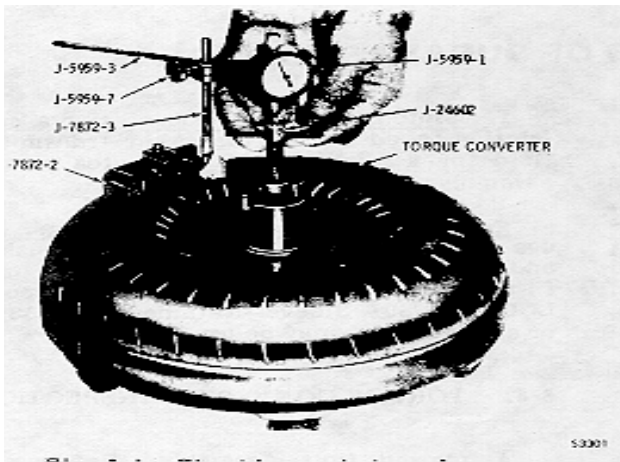

Fig. 6-1. Checking end play of torque converter elements
(1) Clear the torque converter of oil. Examine the oil for evidence of foreign matter or metal particles, indicating transmission or converter internal damage.
(2) Support the converter assembly on the converter cover (pump hub upward). Place the converter end play gage, J-24602, into the converter pump hub (fig. 6-1).
(3) Retain the body of the gage in the pump hub with one hand while rotating the center screw with the other hand, locking the gage to the turbine hub. Do not overtighten.
(4) Assemble J-5959-1, J-5959-3, J-5959-7, J-7872-2, J-7872-3 as shown in figure 6-1. Install the above items onto the converter pump hub as shown in figure 6-1.
(5) Adjust the lug attachment J-5959-7 so the dial will make firm contact with the top of the center screw (fig. 6-1).
(6) Set the dial to read zero and lift the center screw (fig. 6-1) as far as possible. The dial indicator reading must not exceed the values listed below. If the converter end play exceeds the value listed, the torque converter assembly should be replaced.